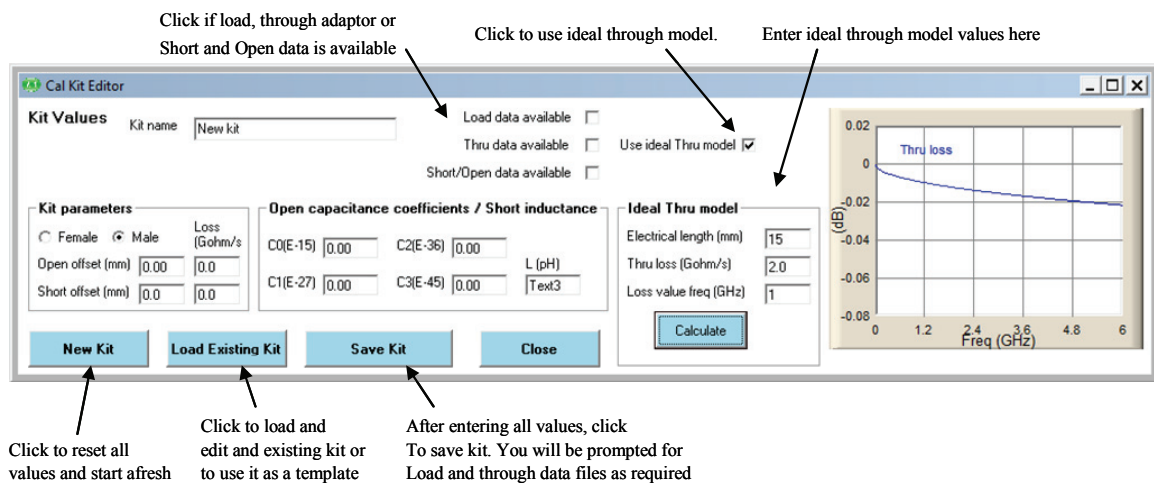

Figure 5.5 Calibration Kit Editor
As already mentioned, the calibration kit editor can be used to create or edit an existing calibration kit. Fig. 5.5 shows the editor window. A typical example is to create a new kit using an existing kit as a template to speed things. So, we would first load the existing calibration kit. Then, type the new kit name in the name box and modify the parameters as needed. Finally, click Save Kit to save the kit with a new name.
- Load kit using the Kit Editor (see Fig. 5.5)
- Save the kit for future use by clicking the 'Save Kit' button (Fig. 5.5).